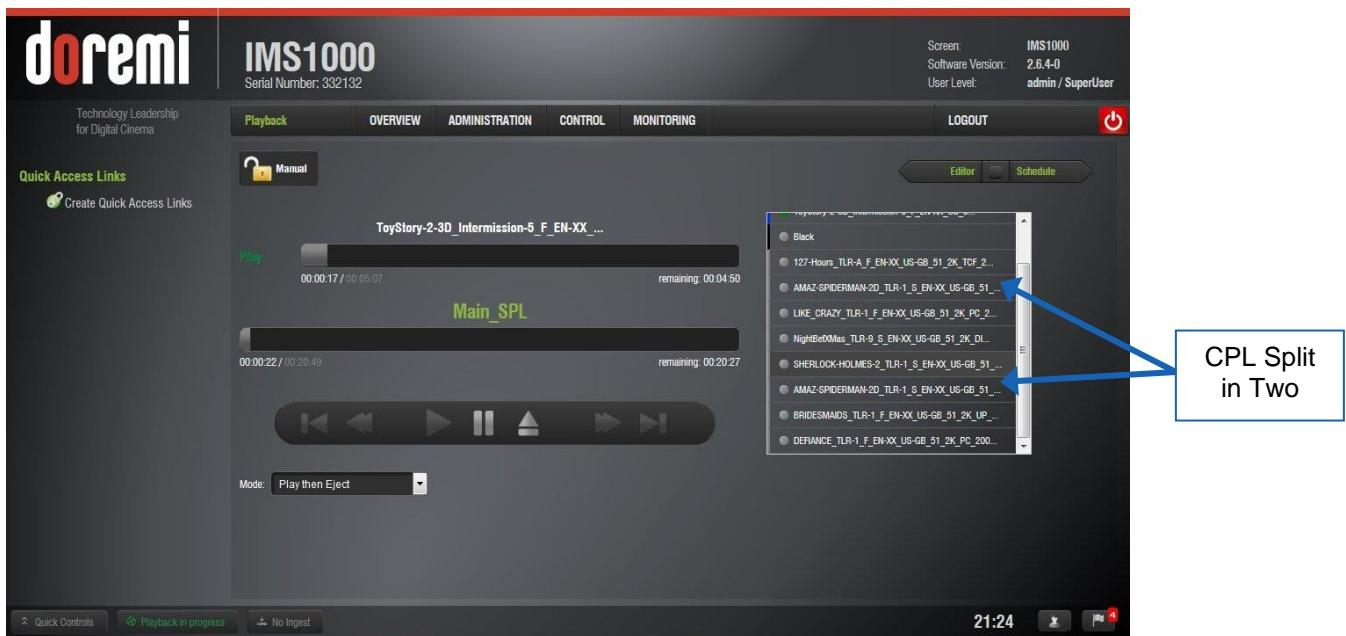

Figure 257: Intermission Playback
- In the Cinelister Playback tab, the Main SPL will appear as shown in Figure 257. The CPL that has the Intermission SPL attached to it will appear as two clips with the intermission CPLs in-between (Figure 257).